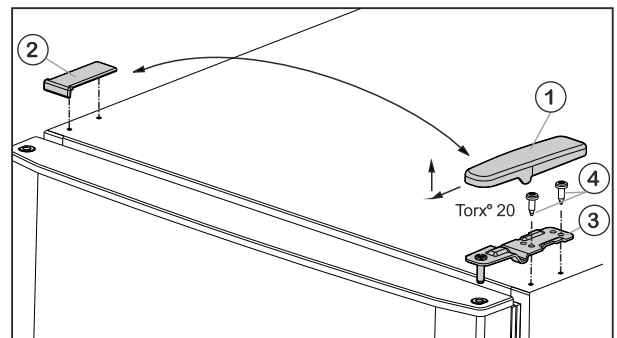

Fig. 5
- ▶ Pull off the cover Fig. 5 (1) forwards and upwards.
- ▶ Lift off the cover Fig. 5 (2).
- ▶ Unscrew the upper turn hinge Fig. 5 (3) (2 x Torx® 20) Fig. 5 (4) and lift it off.
- ▶ Set the upper door down on the centre bearing block (13).
- ▶ Insert the upper turn hinge Fig. 5 (3) in the door on the new hinge side.
- ▶ Screw in the upper bearing block **tightly (with 4 Nm)** (2 x Torx® 20) Fig. 5 (4). Use a cordless screwdriver if necessary.
- ▶ Fit the cover Fig. 5 (1) on the opposite side by sliding it rearwards and latching it into place.
- ▶ Press the cover Fig. 5 (2) on the opposite side down into place until it latches.